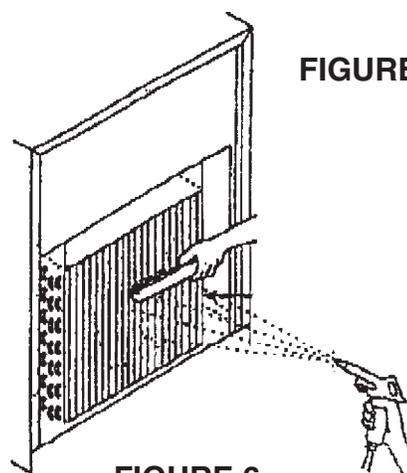

FIGURE 5
1. See **FIGURE 5**. Periodically clean the **Condenser (#11)**. Use a dust collector and an air gun to clean dirt and debris. Be careful not to get too close to the unit with high pressure as you will damage the unit. If grease or oil are built up and won't blow off, wash it off with a mild detergent.